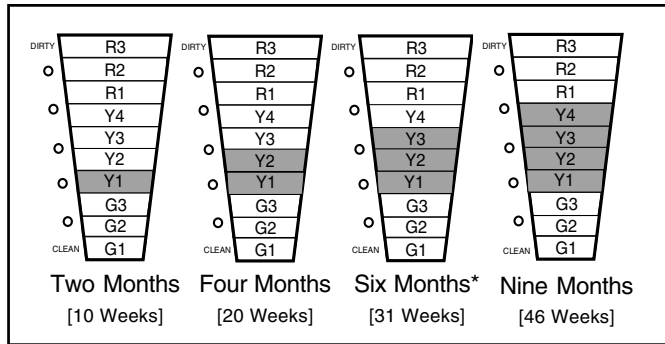

Figure 27 Yellow LED Collection Cells Settings
- The four YELLOW LED's indicate the COLLECTION CELLS cleaning interval. This is measured in actual run time of the indoor fan. The default setting is 6 months [31 weeks]. See Figure 27.
## CELL CLEANING SETTING (Figure 27)